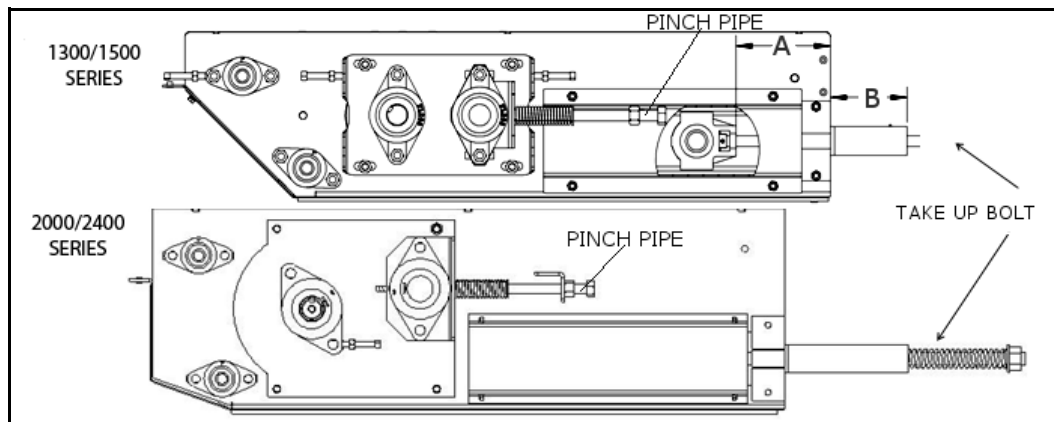

Figure 8.1 Pinch S-Drive
1. Tighten take-up roller bolts so that springs compress and match dimension B (Figure 8.1). If springs are already properly compressed, then tighten the take-up bolts 1"; ensure they are tensioned equally by measuring the position of the take up roller dimension A (Figure 8.1.). Tension until both sides are equal.
3. Do not adjust the take-up roller on the s-drive; instead, use a tape measure and measure dimension 'A' on both sides of the s-drive as shown in Figure 8.1 to ensure take-up bearings/bolts are tightened equally.
1. Measure length 'A' in Figure 8.1 on each side of s-drive. If lengths not equal then adjust nuts until equal.
3. Move the tension roller to its loosest position, by loosening the s-drive takeup bolts (see Figure 8.1).